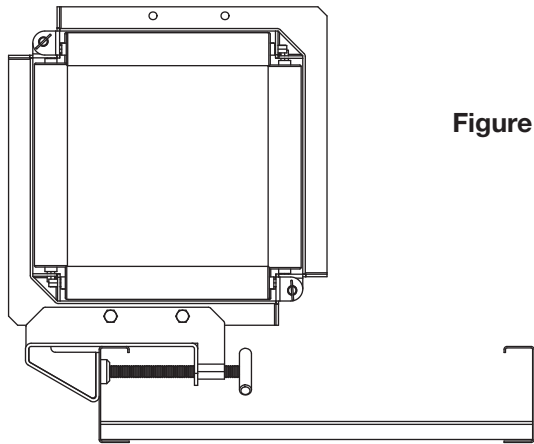

Figure 3
- The clamp can be mounted in either direction to allow proper orientation with ribbed flanges as shown in Figure 3.